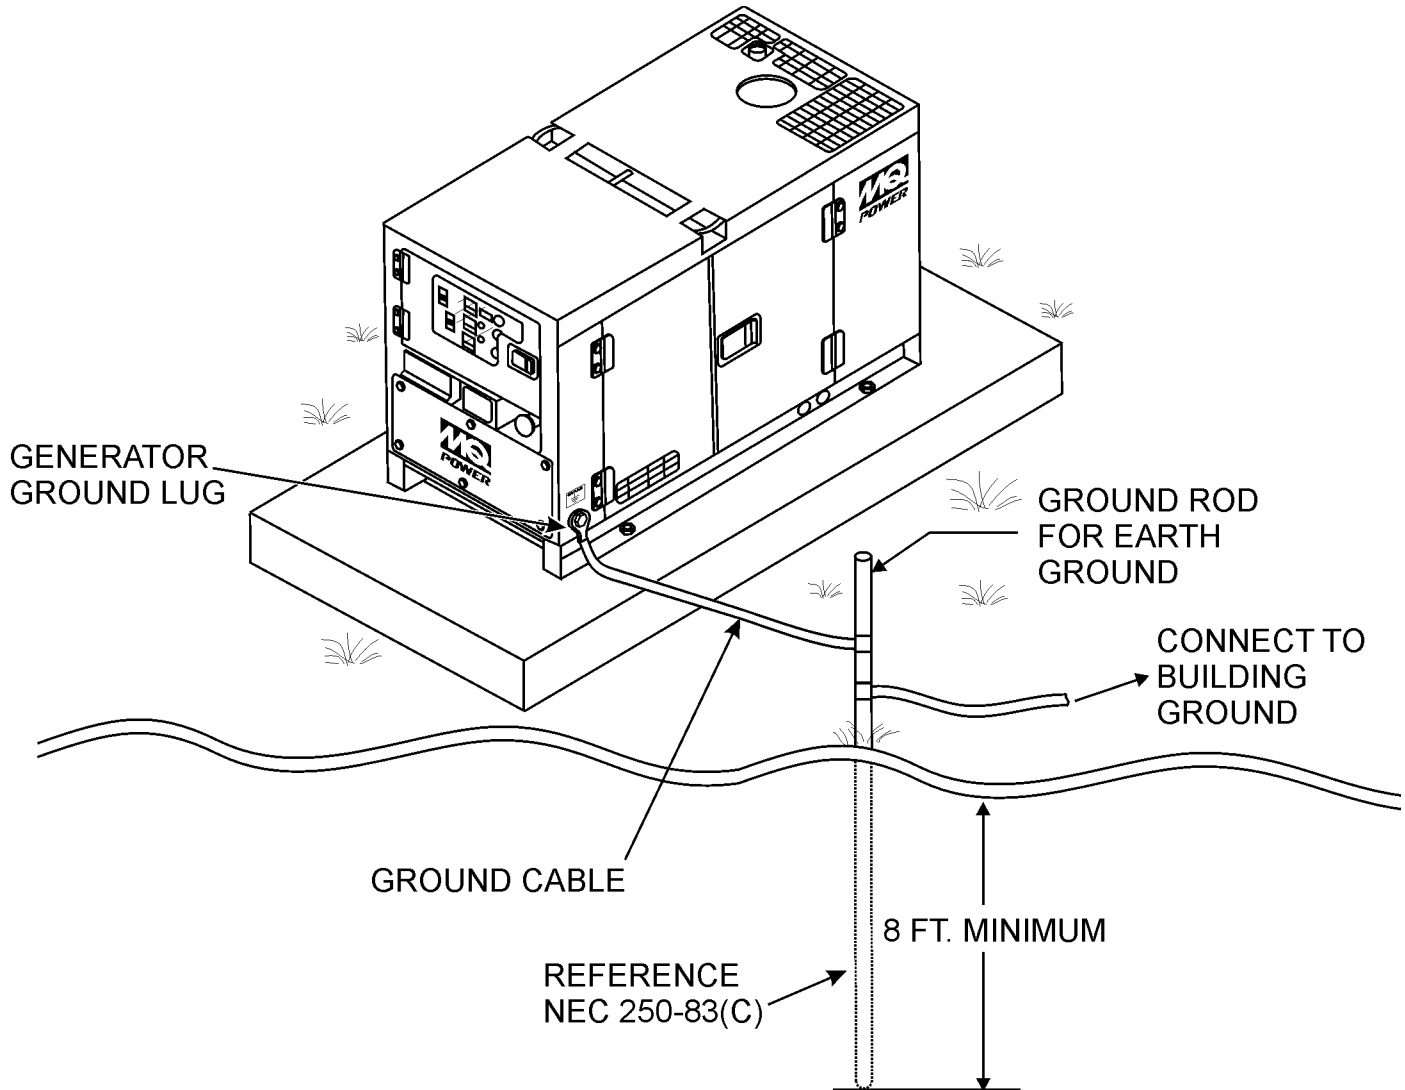

Figure 2. Typical Generator Grounding Application
2. When grounding the generator (Figure 2) connect the ground cable between the lock washer and the nut on the generator and tighten the nut fully. Connect the other end of the ground cable to earth ground.
3. NEC article 250-52 (5) specifies that the earth ground rod should be buried a minimum of 8 ft. into the ground.